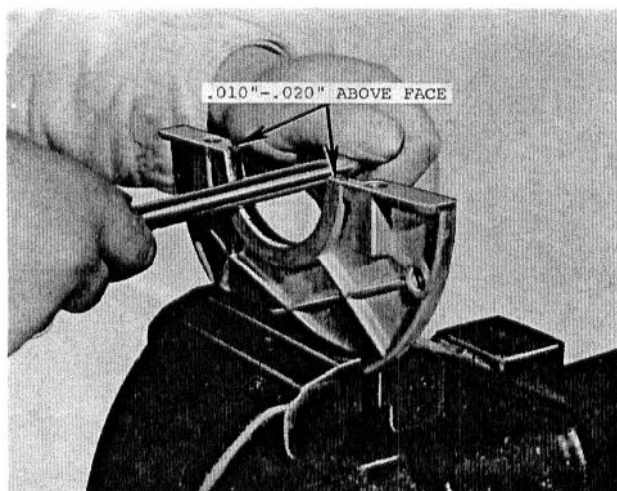

Fig. 27 — Oil Seal Correctly Installed
6. The middle of the seal will bulge out of the groove and must be pushed in with the fingers (work from the center) until well bedded in the groove. Use a round bar to further imbed the strip by rolling and pressing as shown in Fig. 27.